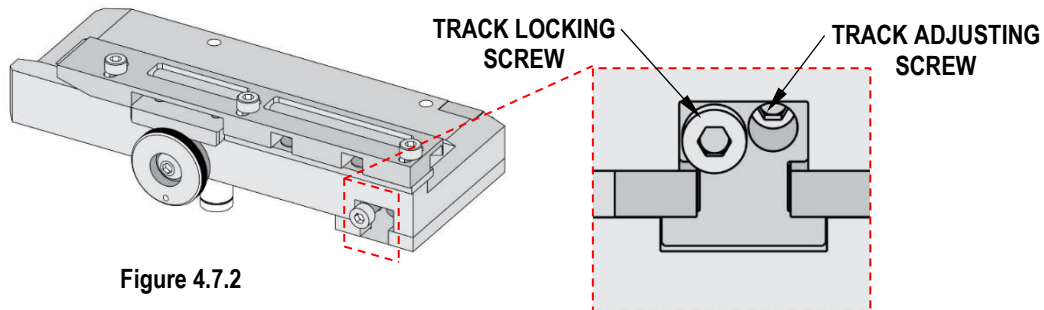

Figure 4.7.2
3. Loosen the track locking screw 2 turns. See Figure 4.7.2.